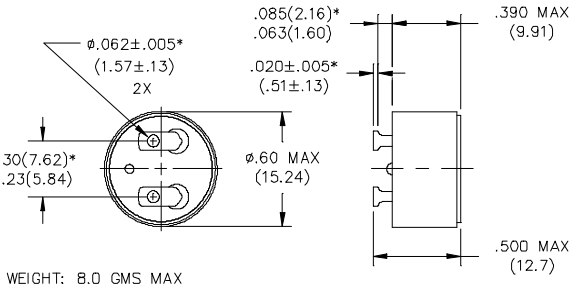

Figure 2:
- 702 = .164-32 Stud Mount (See Figure 2)